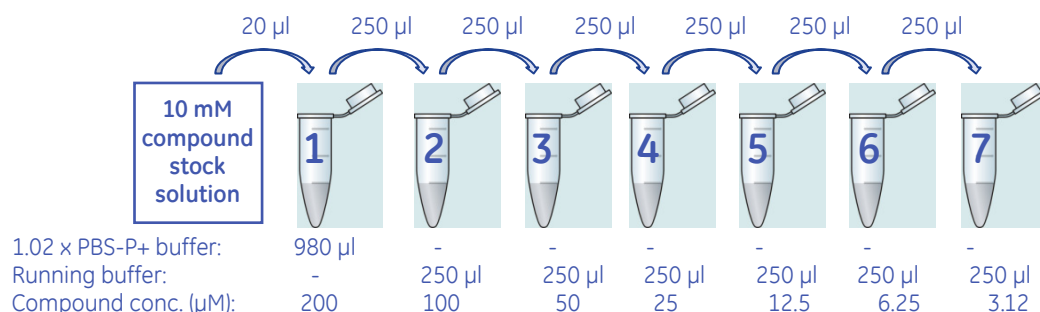

Figure 2. Dilution example for concentration series 3.12 – 50 μM . Concentrations 50 – 3.12 could be used for a kinetic analysis.
- For example, dilute the sample stock (in 100% DMSO) solution 50 times to obtain a DMSO concentration of 2%. For 1000 μl , mix 20 μl of sample stock with 980 μl of 1.02 \times PBS-P+. If the sample stock is 10 mM, this dilution will result in a sample concentration of 200 μM . To prepare a concentration series dilute the sample further using assay running buffer (PBS-P+ with 2% DMSO). An example is shown in Figure 2.